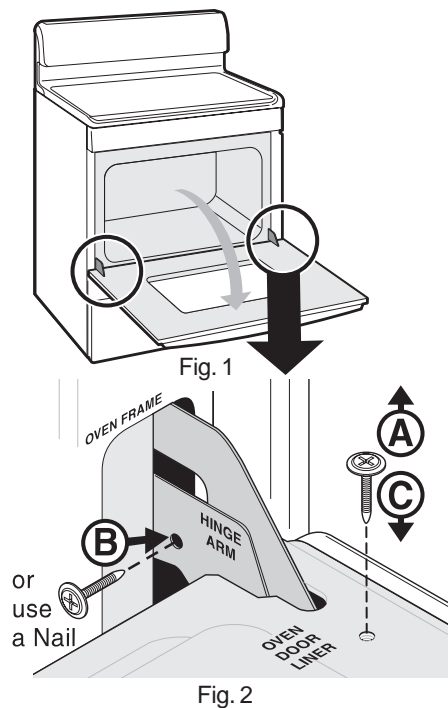

Fig. 2
2. Remove 2 screws located on the inside of the oven door liner (See **A** Fig. 2).
3. Insert the 2 screws into the door hinge holes located on the side of the hinge arm, one into each hinge (See **B** Fig. 2).
5. Reinstall the 2 screws into the door liner (See **C** Fig. 2).